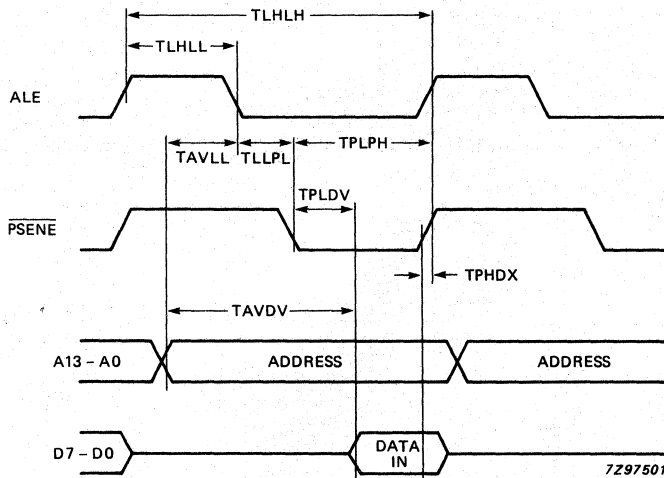

Fig. 18 Reading from quasi-internal program memory.
**A.C. CHARACTERISTICS** (Non-standard pins. See Fig. 18)Conditions: 12 MHz clock,  $C_L = 80$  pF on A0-A13 $C_L = 100$  pF on PSEN, ALE $V_{CC} = +5\text{ V} \pm 10\%$ ,  $T_{amb} = 0$  to  $+70$  °C